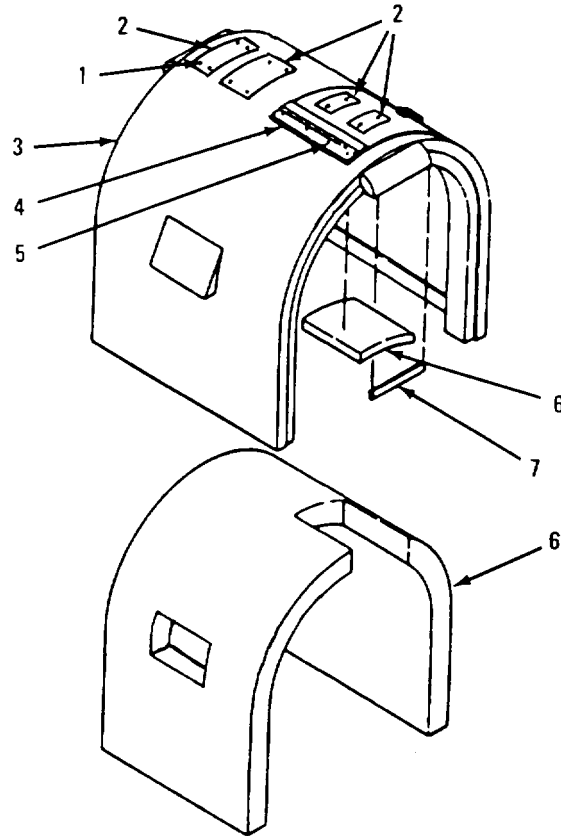

Figure 4-7. Sound Enclosure Cover Assembly
- a. Remove. (Refer to Figure 4-7)